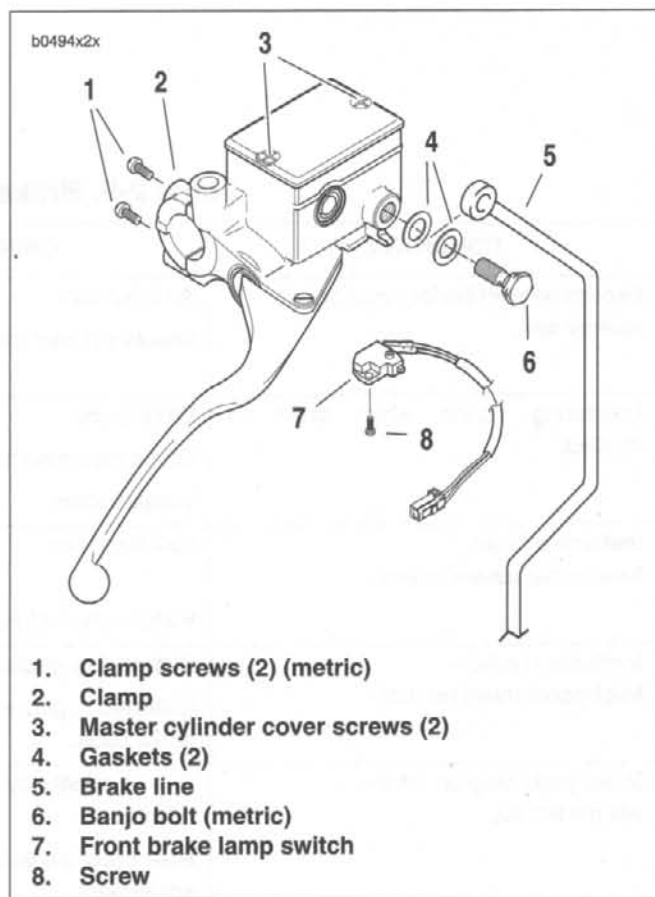
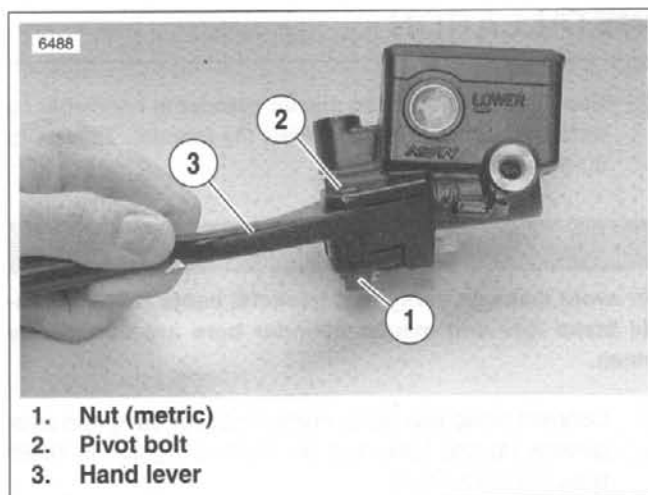
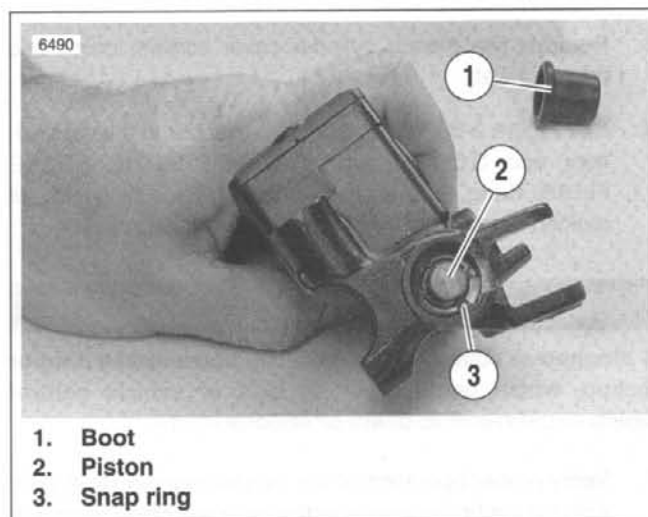
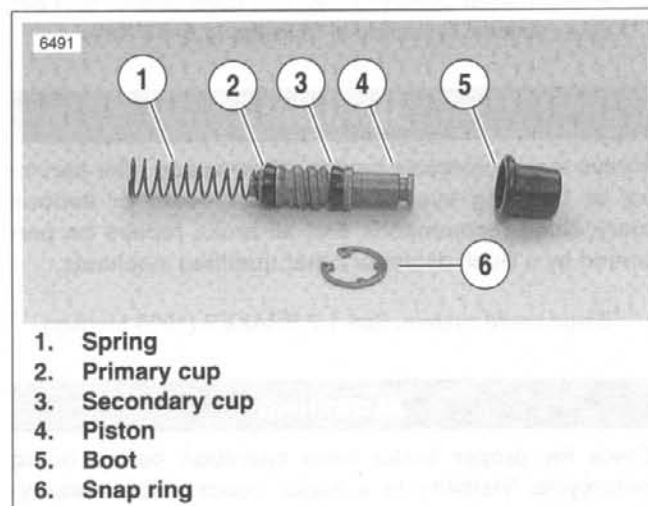

Figure 2-27. Front Master Cylinder
Figure 2-28. Hand Lever
Figure 2-29. Snap Ring
Figure 2-30. Piston Assembly
3. See Figure 2-27. Remove banjo bolt (6) (metric) and two gaskets (4) to disconnect brake line (5) from master cylinder. Discard gaskets.
4. Remove screw (8) or unplug both terminals to detach brake lamp switch (7).
1. See Figure 2-28. Detach front brake hand lever.
- a. Remove nut (1) (metric) from lever pivot.
- b. Remove pivot bolt (2) from lever pivot.
- c. Detach front brake hand lever (3) from master cylinder assembly.
3. See Figure 2-29. Compress piston (2) and remove rubber boot (1).
4. Depress piston assembly and remove internal snap ring (3). Discard snap ring.
5. See Figure 2-30. Remove piston assembly (1-4) from front master cylinder.
1. See Figure 2-30. Check piston assembly components.
- a. Small end of spring (1) sits behind primary cup (2). Large side of primary cup faces spring.
- b. Secondary cup (3) sits within ridge at middle of piston (4).
2. Insert piston assembly, spring first, into master cylinder. Secure with a **new** snap ring (6).
3. Install ridge on boot (5) into groove on piston (4).
4. See Figure 2-28. Install front brake hand lever.
- a. Align hole in lever (3) with hole in master cylinder assembly.
- b. Lubricate pivot bolt (2) with LOCTITE ANTI-SEIZE.
- d. Install nut (1) (metric). Tighten to 44-62 **in-lbs** (5.0-7.0 Nm).
5. See Figure 2-27. Install front brake lamp switch (7).
- a. Attach front brake lamp switch with screw (8). Tighten to 7-13 **in-lbs** (0.8-1.5 Nm).
1. See Figure 2-27. Fasten master cylinder to handlebar by installing clamp (2) and screws (1) (metric). Tighten to 80-90 **in-lbs** (9.0-10.2 Nm).